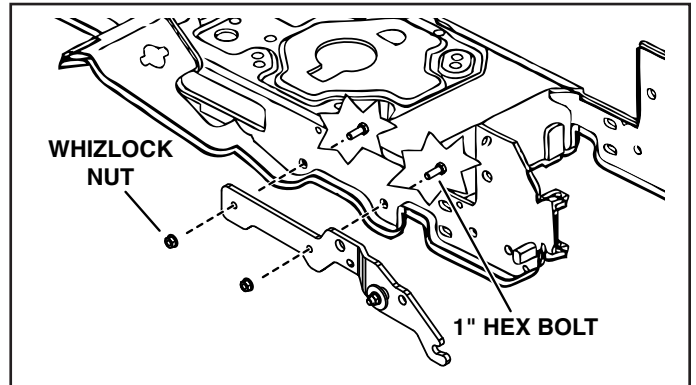

Figure 12.
3. See figure 12. Attach the RH mounting plate to the front right side of the tractor frame using two 3/8-16 x 1" hex bolts and 3/8-16 whizlock nuts.